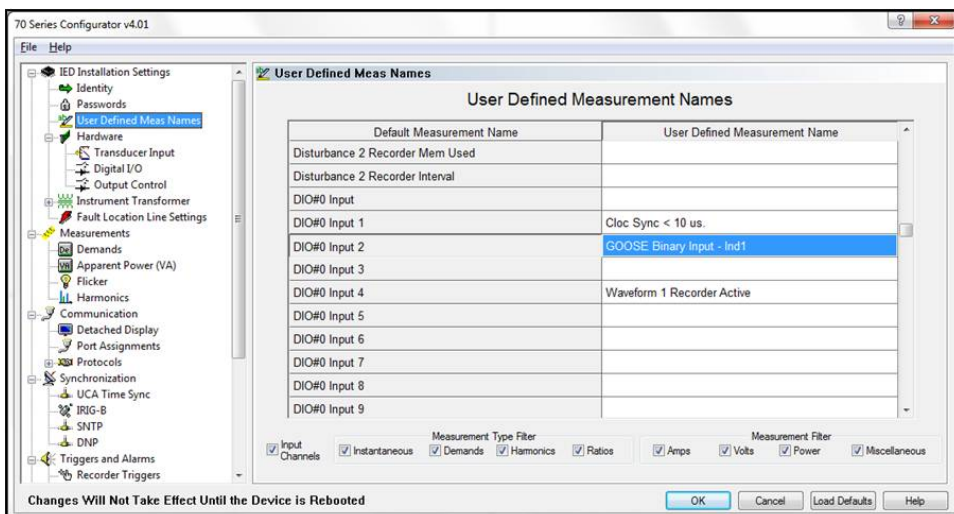

FIGURE B4. VIRTUAL STATUS POINTS ASSIGNED PLAIN-LANGUAGE NAMES.
3. Configure the “User Defined Measurement Name” of the wrap-around point to indicate the plain-language description of the point represented by the binary status. (See Figure B4.)